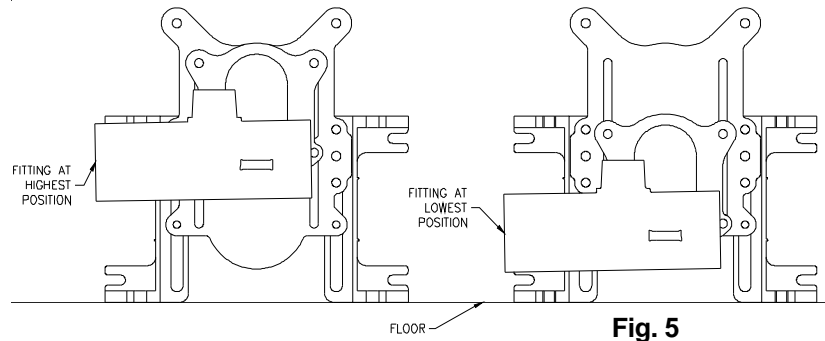

Fig. 5
- Standing the assembly upright, loosen the faceplate bolts to adjust the waste line height and pitch as required. Re-secure bolts using ratcheting wrench (25-35 lb-ft of torque). See Fig. 5